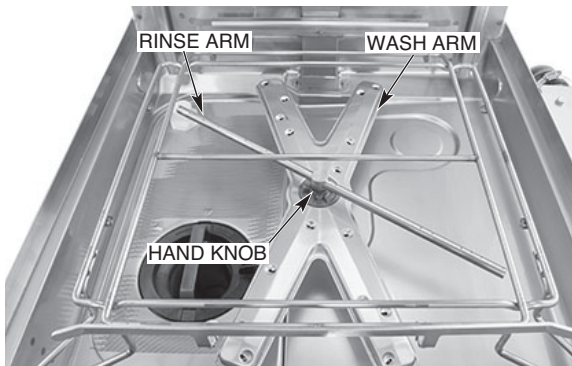

Fig. 22
6. Ensure upper and lower wash and rinse arms (Figs. 22, 23) rotate freely and are free of any obstructions. If not, remove arms and clear out any obstructions. Refer to Maintenance, page 27.
Upper and lower wash and rinse arms (page 22, Figs. 22, 23) should turn freely and continue turning for a few seconds after being rotated by hand. Remove any obstructions causing improper operation.
To remove the lower wash arm, unscrew the hand knob and lift the rinse arm off (Fig. 22). The wash arm can be lifted off once the rinse arm is removed.